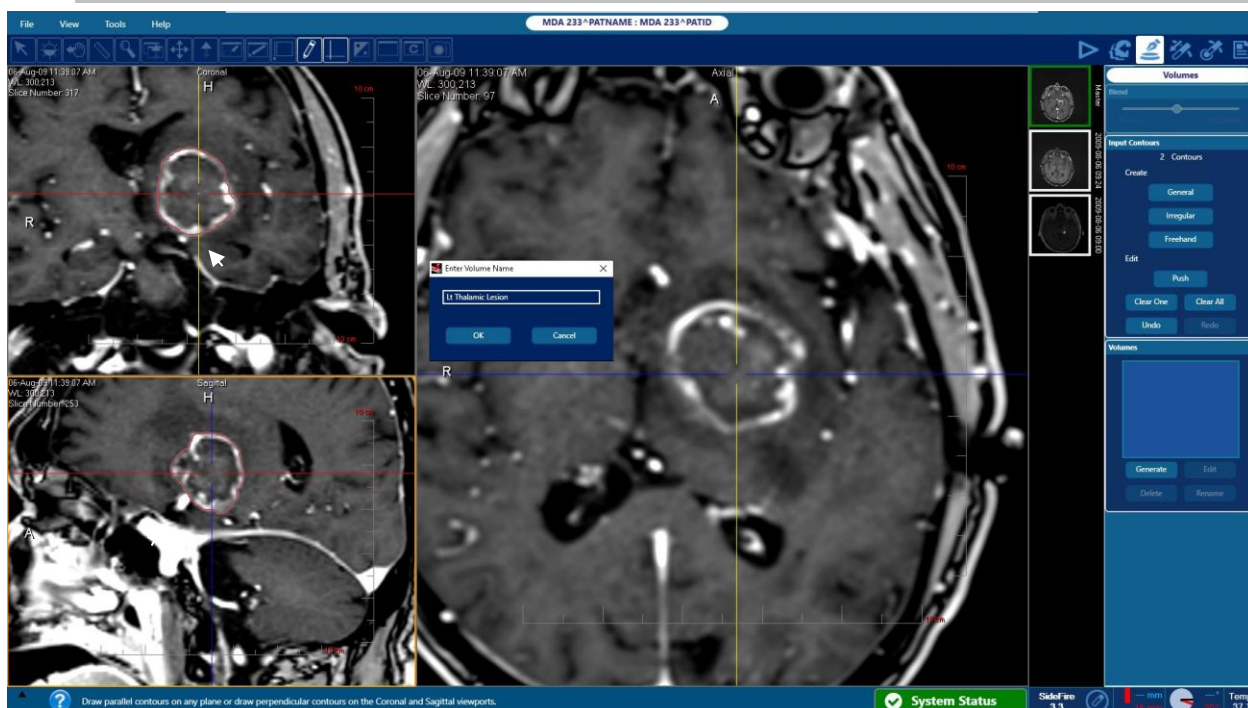

Figure 8.1.31: Create an ROI Volume in *Volumes* task
- Left click and hold while dragging the Arrow Tool across the intended structure from margin to the opposite margin in a diagonal manner on each of the reconstructed orthogonal views on the left (white arrow tool shown in Figure 8.1.31)